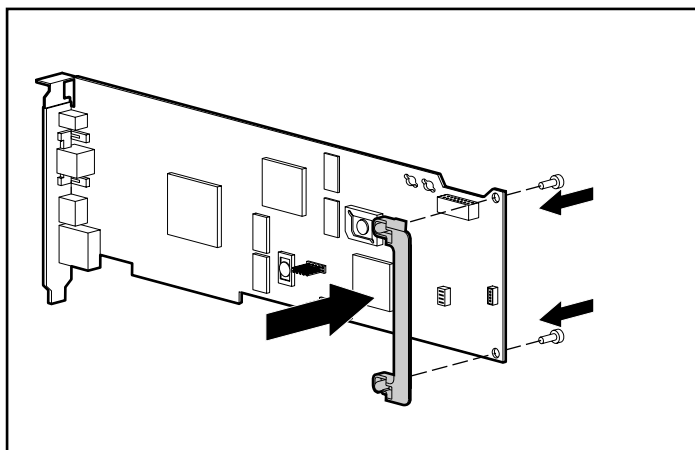

Figure 2-1. Installing the PCI board extender bracket
CAUTION: The screws shown in Figure 2-1 are self-tapping and some amount of force is required for installation. Caution is required to prevent damage to the Remote Insight Lights-Out Edition board.
1. Hold the board so the side connector bracket is to your left and the board edge connector is down, as shown in Figure 2-1.